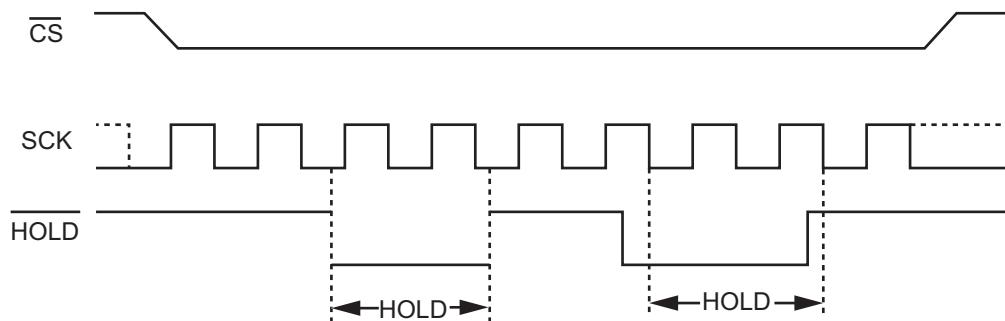

Figure 6-1. Hold Condition Activation
The Hold condition starts when the Hold (HOLD) signal is driven Low at the same time as Serial Clock (SCK) already being Low (as shown in Figure 6-1).
The Hold condition ends when the Hold (HOLD) signal is driven High at the same time as Serial Clock (C) already being Low. Figure 6-1 also shows what happens if the rising and falling edges are not timed to coincide with Serial Clock (SCK) being Low.